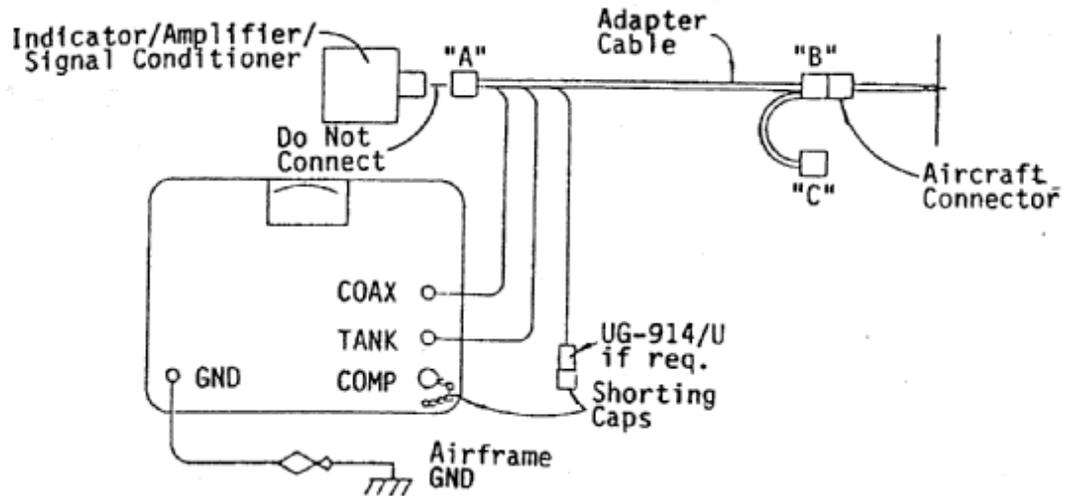
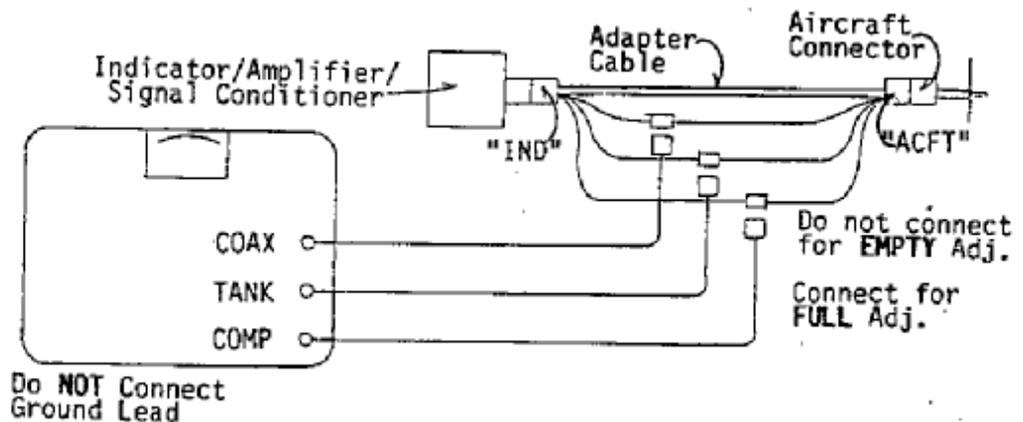
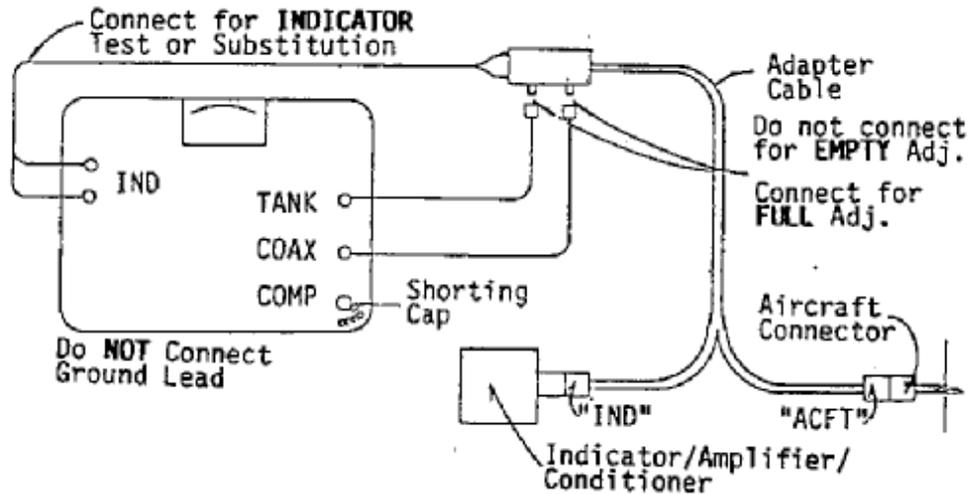

Figure 16 SYSTEM CALIBRATION (METHOD 1), CONFIGURATION #1 (MULTIPLE AIRCRAFT CONNECTORS)
Figure 17 SYSTEM CALIBRATION (METHOD 1), CONFIGURATION #2 (SPLIT LEADS)
Figure 18 SYSTEM CALIBRATION (METHOD 1), CONFIGURATION #3 (BNC CONNECTORS)
(1) Setting “EMPTY” Adjustment - (Without adapter cables)
(2) Setting “EMPTY” Adjustment - (*With adapter cables*)
- (d) Refer to Figure 16, Figure 17 or Figure 18 and configure the amplifier and the aircraft connector accordingly.
- Figure 16 shows an adapter cable with multiple connectors at the aircraft end. The Tank Unit circuits are wired in one branch to the connector attached to the amplifier.
- Figure 17 shows an adapter cable with split leads from each end of the cable fitted with color-coded BNC connectors. (In this case, connections are made with STRAIGHT or TEE BNC adapters.)
- Figure 18 shows an adapter cable with BNC connectors to substitute the amplifier. (The cable connections are made to the Test Set's IND \pm jacks.)
- (d) Place the test equipment in a convenient location and configure the amplifier, adapter cable, and the aircraft wiring as shown in Figures 16, 17 or 18 according to the system configuration.